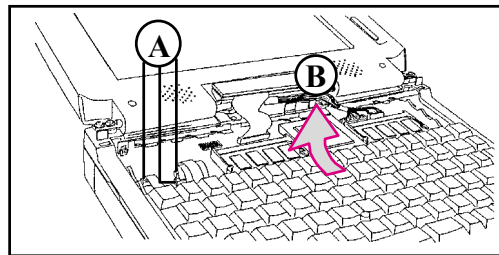

FIGURE 5-4
4. UNPLUG THE THREE KEYBOARD CABLES (FIGURE 5-4 A) AND DETACH THE
KEYBOARD FROM THE CHASSIS (FIGURE 5-4 B).